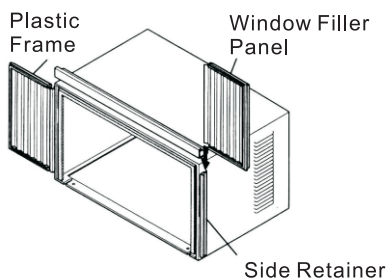
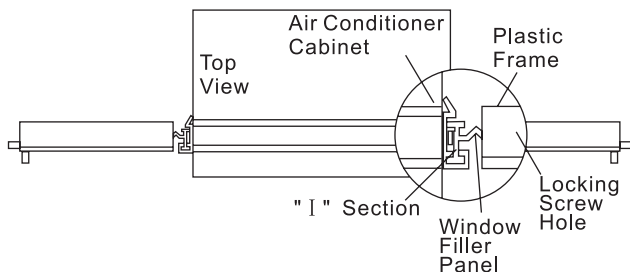

Fig.9
Fig.10
2. Slide "I" section of window filter panel into side retainer on the side of the cabinet (see Fig.9 & Fig.10). Repeat on the other side.